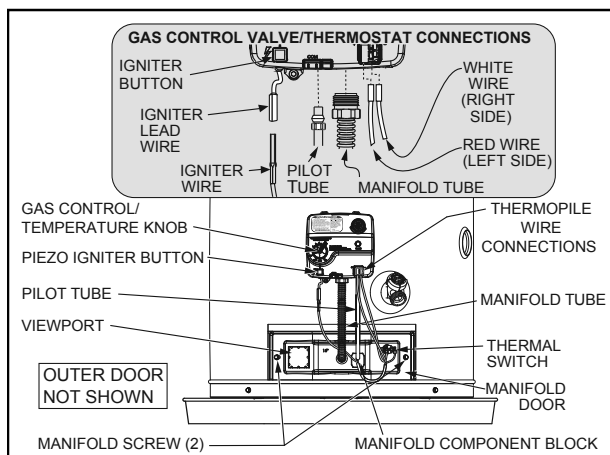

Figure 25: Front View of Water Heater
5. Remove the two screws securing the installed manifold assembly to the combustion chamber (Figure 25).
6. Disconnect the following from the gas control valve/thermostat: pilot tube, igniter wire, and manifold tube. See Figure 25.
7. Using needle nose pliers, disconnect the white and red thermopile connectors from the gas control valve/thermostat (Figure 25).
2. Inspect the view port for damage and replace as required (Figure 25, page 19).
5. Replace the two screws that secure the manifold assembly door to the combustion chamber, then tighten them securely (Figure 25, page 19). There should be no space between the gasket part of the manifold door and the combustion chamber. **IMPORTANT:** Do not operate the water heater if the door gasket does not create a seal between the manifold door and the combustion chamber.
6. Reconnect the manifold tube and pilot tube to the gas control valve/thermostat (Figure 25, page 19). Do not cross-thread or apply any thread sealant to the fittings. **IMPORTANT:** If you were supplied with a new ferrule nut in a parts kit, follow these steps to connect the pilot tube:
7. Connect the white and red thermopile wires to the gas control valve/thermostat. See Figure 25, page 19.